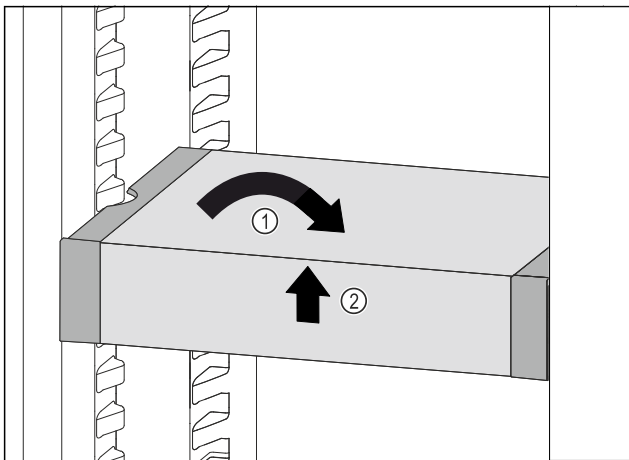

Fig. 52
- ▶ Set VarioSafe straight. Fig. 52 (1)
- ▶ Lift VarioSafe at the front. Fig. 52 (2)